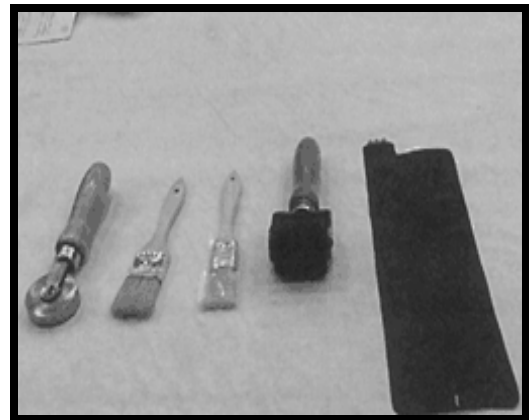

FIGURE 3.6
3.6 Miscellaneous Materials (See Figure 3.6)